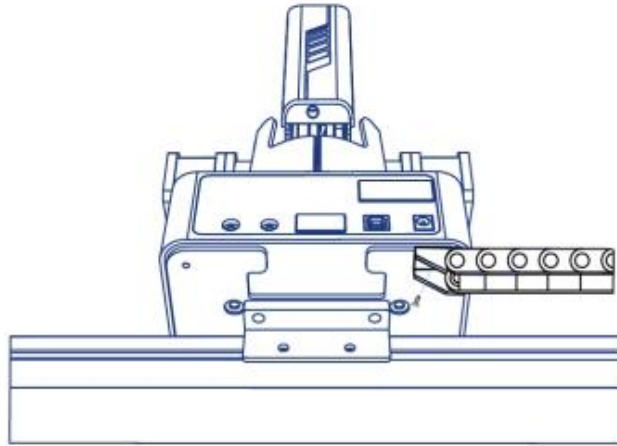

Figure 5.33 Connect to wire set
- Step 3** Connect the end of the wire set to the plate b with a M3\*6 countersunk head hexagon screw, as shown in Figure 5.33.